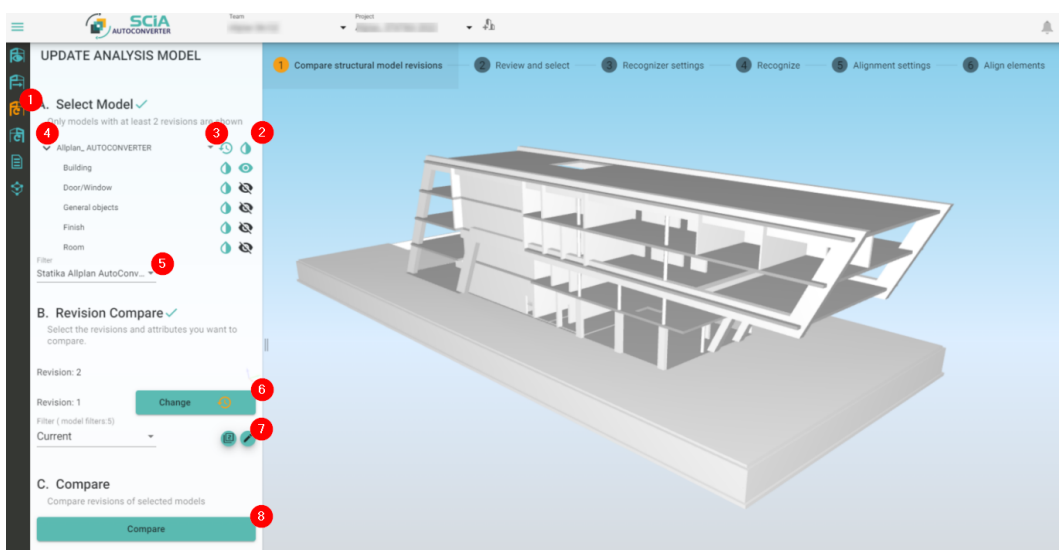

Figure 32: Compare Structural Model Revisions
The workflow icon can be found on the left workflow bar, third from the top (1 - Figure 32), right below the Convert Structural to Analysis workflow. Compare Structural Model Revisions is the first step of the workflow dedicated to the model selection and determining what should be compared between which revisions. The purpose of this step is to set correct comparison conditions and proceed to comparison.
How to set the model and comparison details? (Figure 32)
In case compare button is in the inactive state, check if you have selected two revisions (Figure 32, bullet (6)).